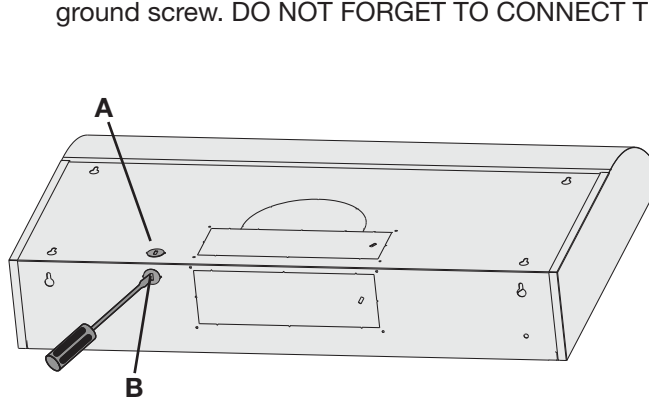

Figure 1
- Use a tool to punch the wiring hole, from the two options for holes. Please choose hole A or hole B accordingly to wiring requirement (Figure 1). Install a 1/2 in. diameter strain relief (not included) through the power cable knockout.